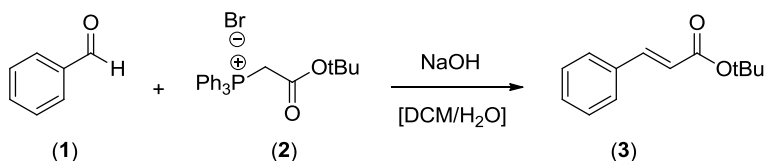

Figure 1: Two-phase Wittig reaction scheme
In conventional Wittig reactions, the phosphonium ylide reagent is prepared in batch by treatment of the Wittig salt with a base. However, when using substrates which can withstand alkaline conditions, the ylide can be prepared in situ. In this so-called two-phase Wittig reaction, an aldehyde (1) and a Wittig salt (2) are introduced into the microreactor, where they react to form the corresponding unsaturated Wittig product (3) by treatment with aqueous sodium hydroxide. The Wittig reaction is an example of a very selective reaction, producing no side products. However, the formed double bond can take two configurations: the *cis* (Z) and the *trans* (E) form. The latter is shown in Figure 1.